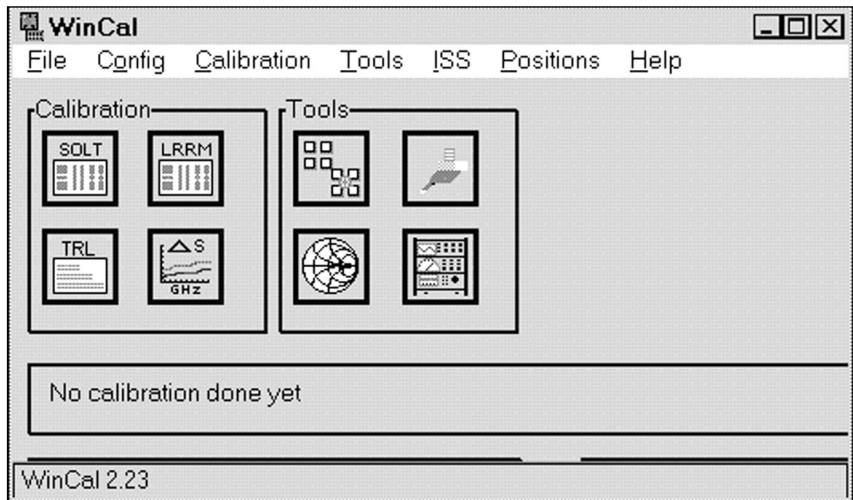

Figure B3. WinCal
- Start WinCal. This will bring up a screen similar to the one shown in Figure B3.